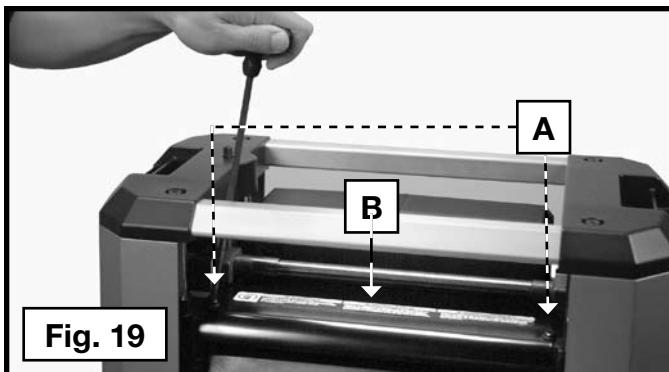

Fig. 19
1. Raise the head assembly (B) Fig. 19 to 4" (102 mm) on the "Scale and Pointer".
2. Remove the screws (A) Fig. 19. Pull the chip deflector or dust collection attachment - whichever is installed - (B) straight out.